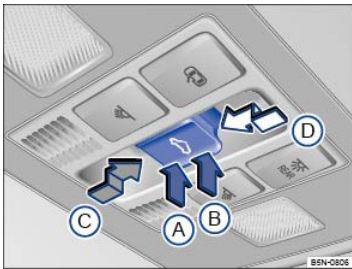

Fig. 75 In the headliner: Power sunroof switch.
The switch ⇒ Fig. 75 has two detents for each switch position (A, B, C, and D).
- Press the  button ⇒ Fig. 75 within about 5 seconds after the sunroof has stopped and hold it in the direction of the arrow  at the second detent until the power sunroof closes completely.